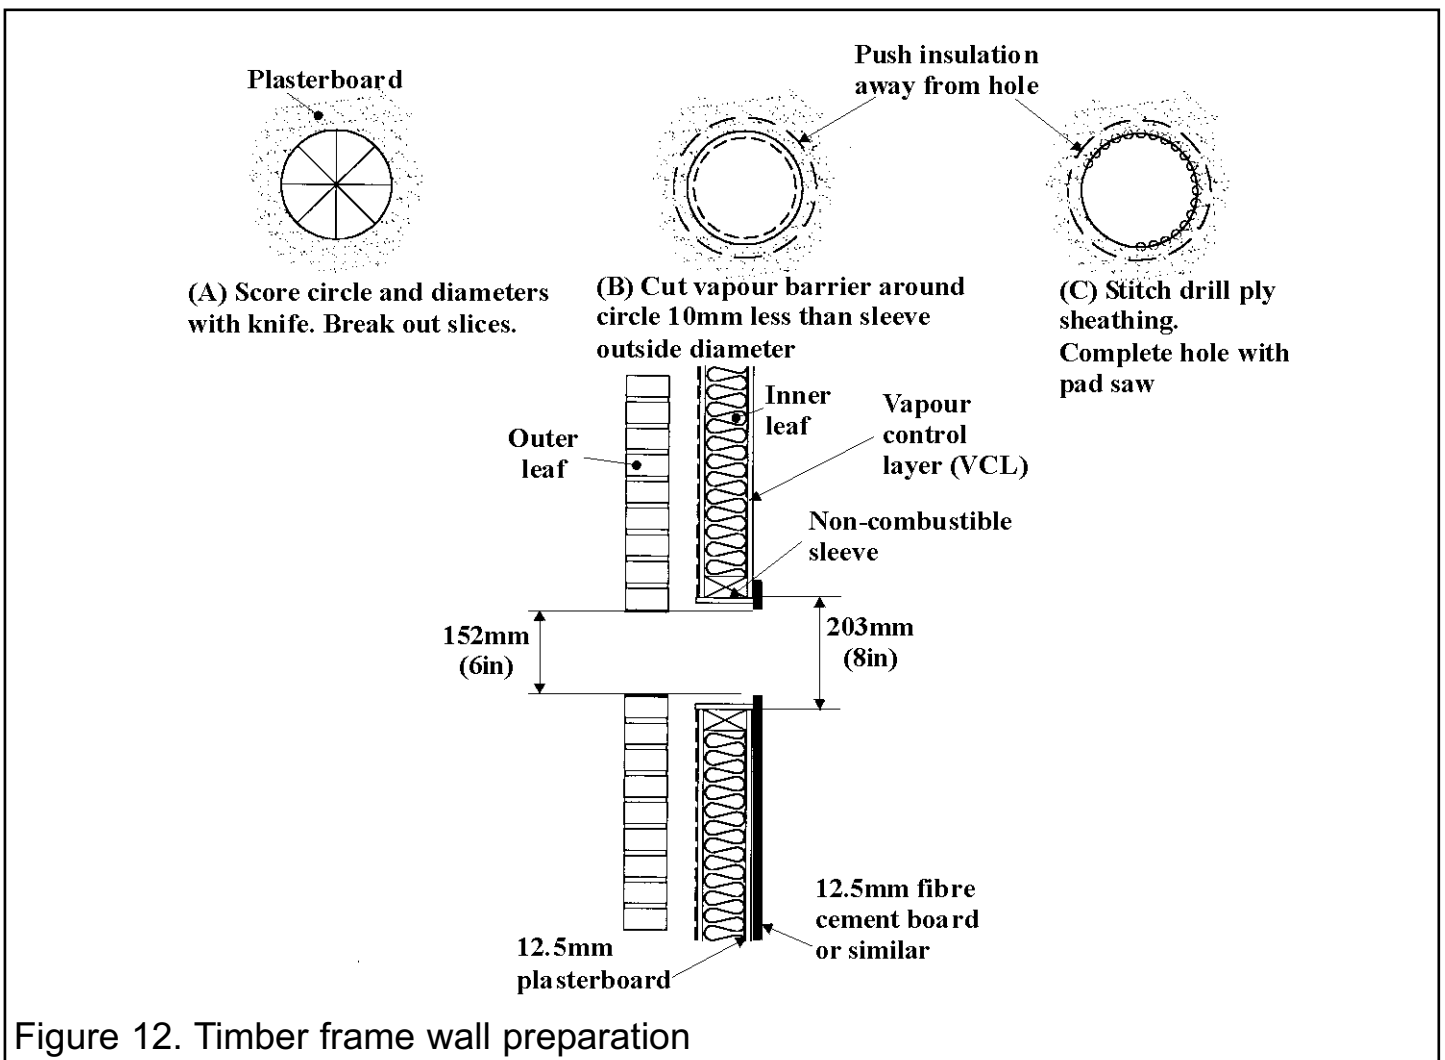

Figure 12. Timber frame wall preparation
- Since the flue will pass through combustible material in the inner leaf of the wall, a non-combustible sleeve 203mm (8in.) diameter will be required round the flue (See figure 12).
- Cut a hole through the inner leaf to accommodate a non-combustible sleeve 203mm (8in.) outside diameter. To minimise the effect of breaking through the vapour control layer (VCL), if possible, cut the hole approximately 10mm undersize so that the sleeve will be forced through the layer. A recommended technique for cutting the inner leaf is shown in figure 12.